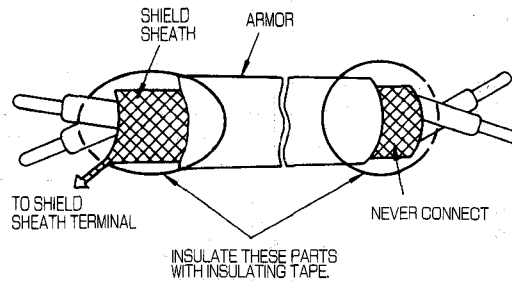
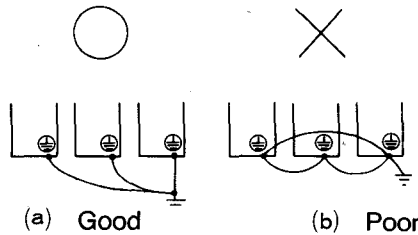

Fig. 3.8 Shielded Lead Termination
Fig. 3.9 Grounding of Three VS-623VM3C Units
(3) Make a positive grounding using ground terminal E on the casing of VS-626VM3C.
- Where several VS-626VM3C units are used side by side, all the units should preferably be grounded directly to the ground poles. However, connecting all the ground terminals of VS-626VM3C in parallel, and grounding only one of VS-626VM3C to the ground pole is also permissible (Fig. 3.8(a)). However, do not form a loop with the ground leads (Fig. 3.9(b)).